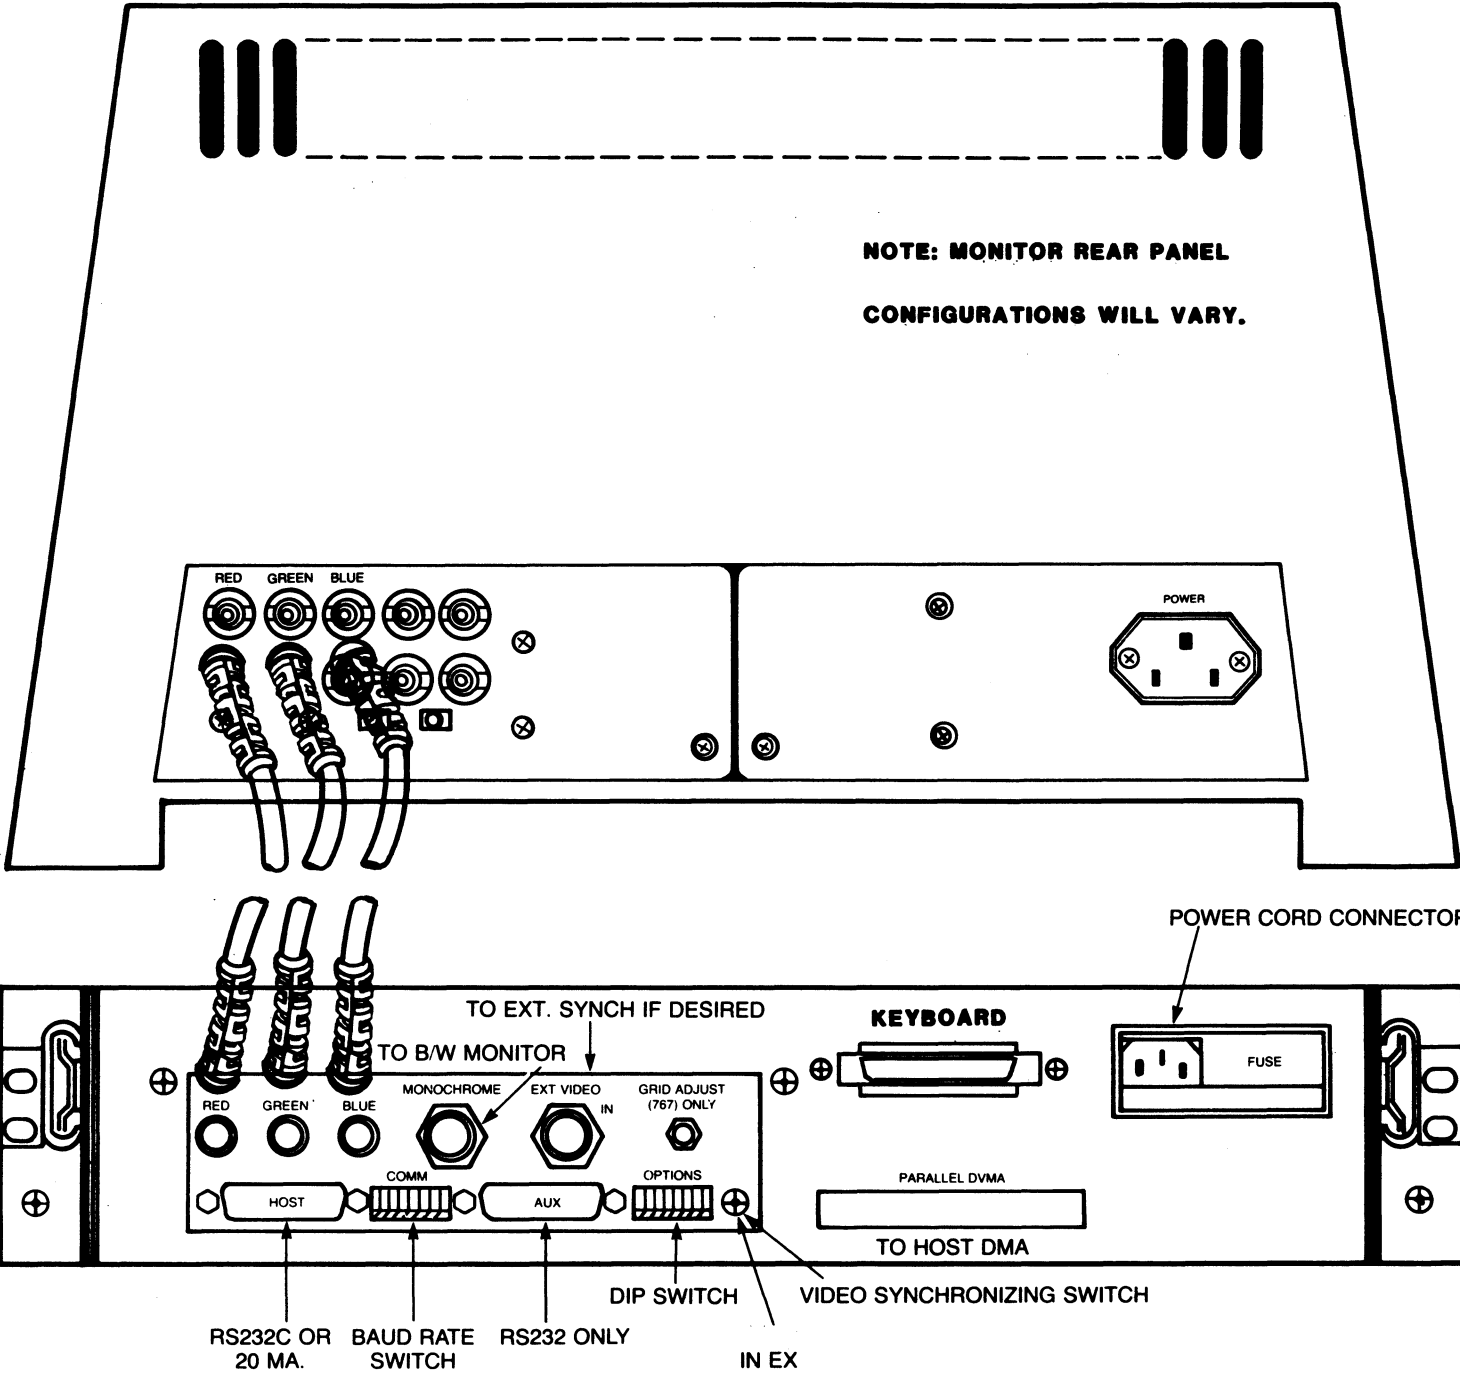

Figure 3.1
If the unit is not damaged, place the monitor on the terminal as shown in Figure 3.1. Align the rear edge of the monitor with the rear edge of the terminal. Connect the three coaxial cables as shown in Figure 3.1 and 3.1A. Be sure that one of the cables provided connects RED (R) on the terminal; do the same for G and B. If a single monitor is being used, the monitor termination switches should be set as in Figure 3.2.
With the correct power applied to the AED 1024 terminal and monitor, push the power switch on the rear surface of the terminal (per Figure 3.1) to ON (UP position) and also switch ON the monitor power (switch is located in rear). Within a second or two, an audible chirp will be heard which indicates that terminal self-test diagnostics have been successfully completed.